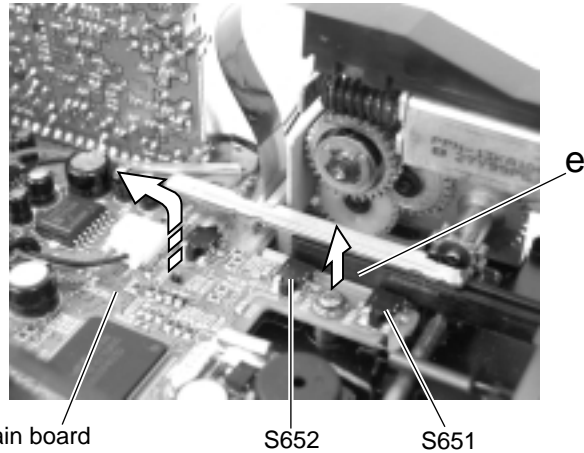

Fig.7
1. Remove the screw **S** attaching the bracket (L).
**ATTENTION:** When reassembling, correctly engage the switch S561 and S562 on the main board with the part **e** of the operation assembly (Refer to Fig.7, 18 and 19).